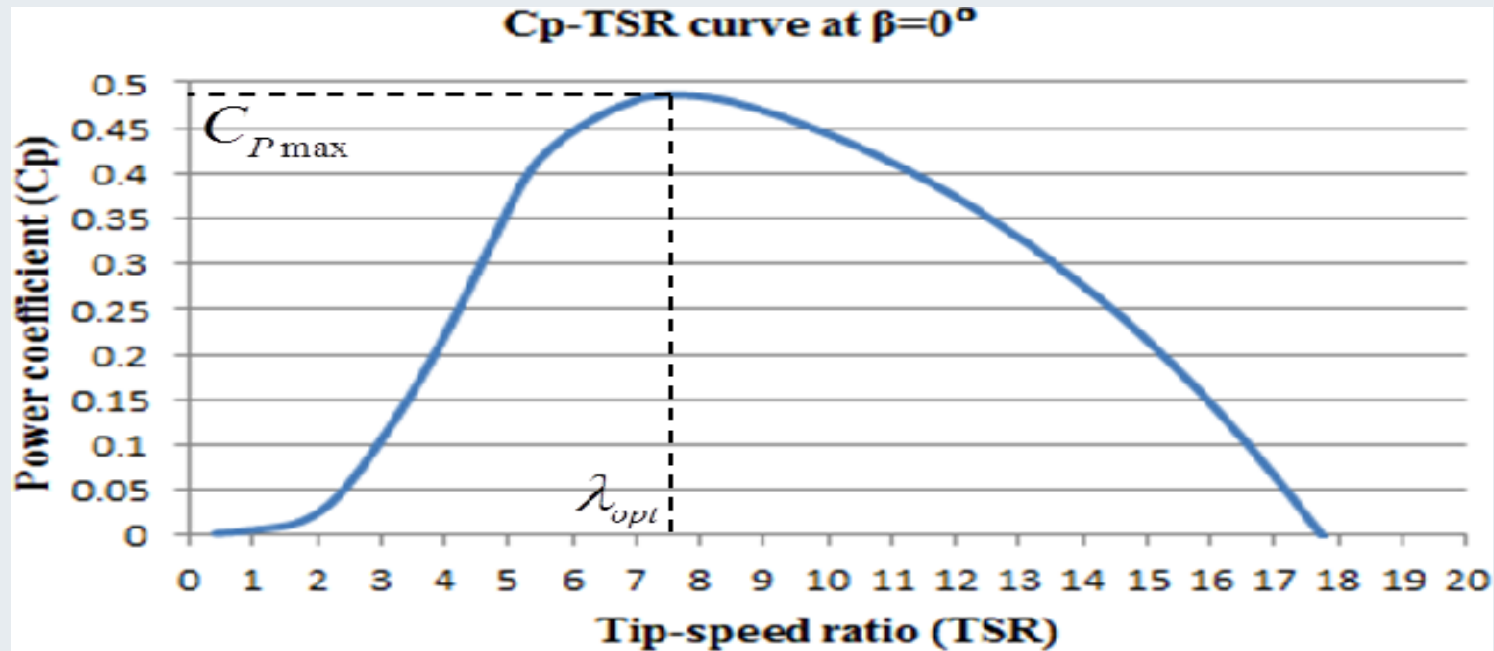

Figure.4. Power coefficient as a function of tip speed ratio
- ❖ In practice, values of obtainable power coefficients are in the **range of 45 percent as indicated in Fig.4.**